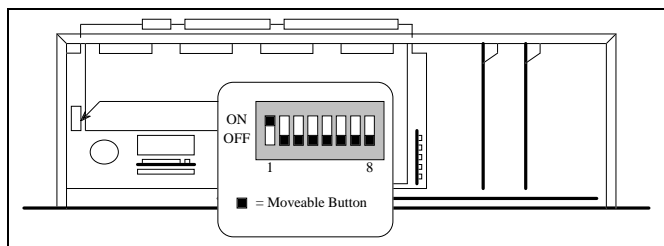

Figure 27 - Location of DIP Switches
4. Set DIP switch #1 to the on position as shown in Figure 27.